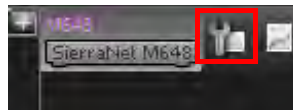
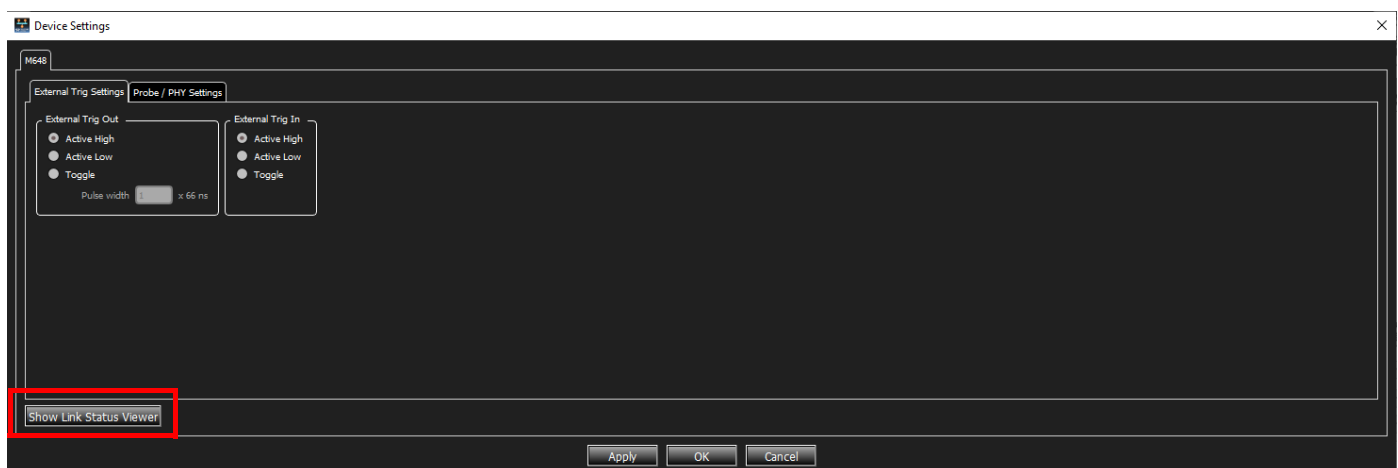

Figure 4.177: Open Status Viewer
Figure 4.178: Device Settings Window
1. Click the wrench icon to the right of the device (Figure 4.177). The Device Settings window opens (Figure 4.178).